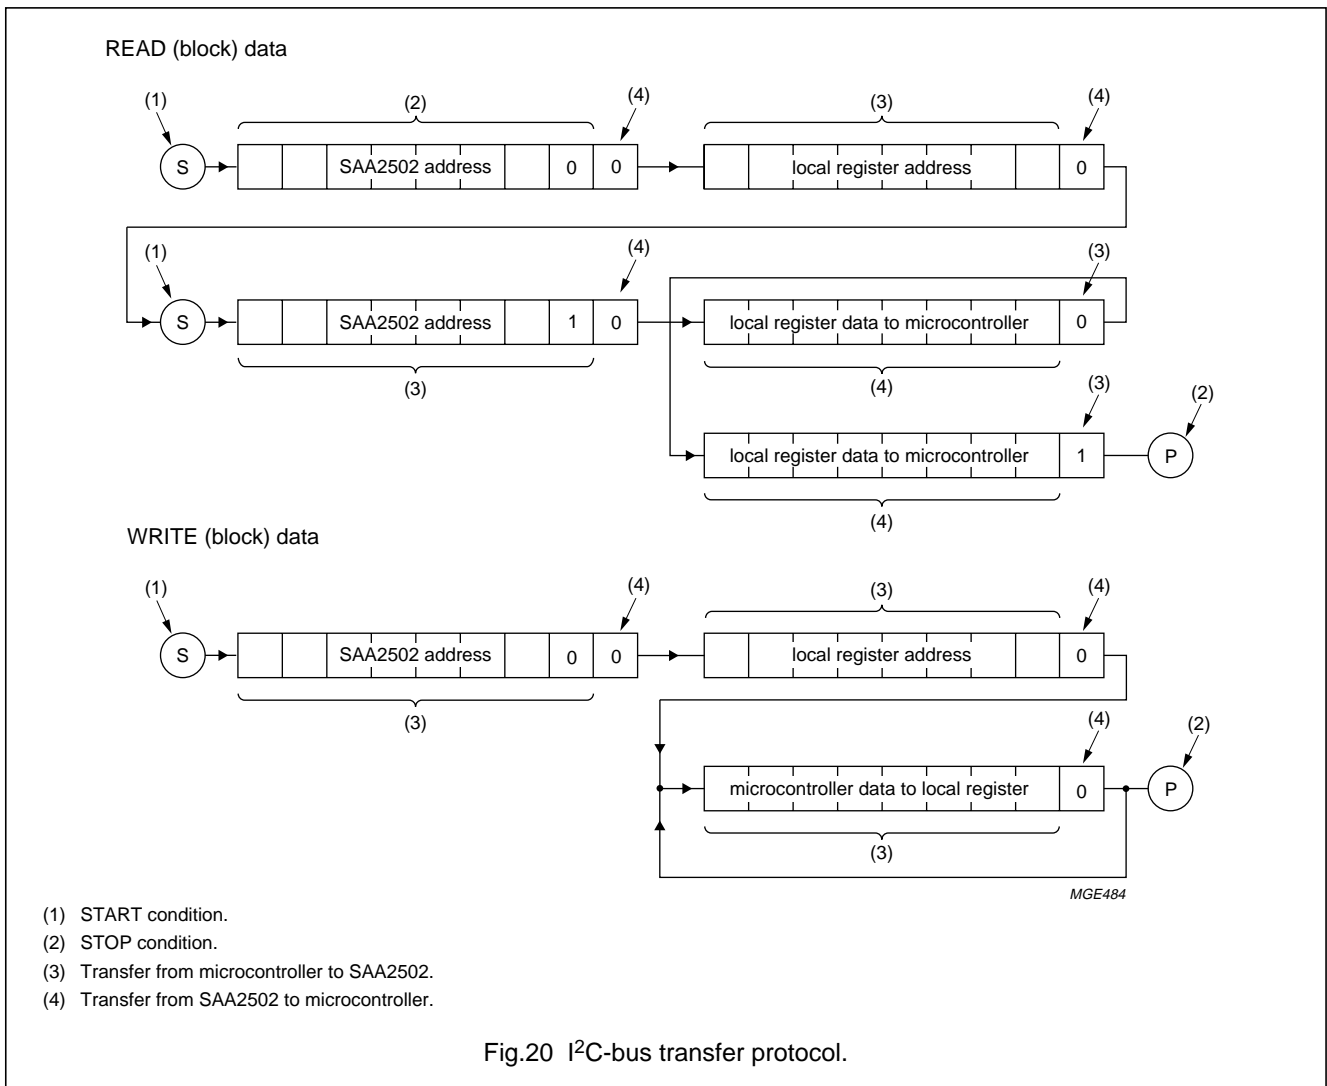

Fig.20 I2C-bus transfer protocol.
7.6.5.2 I2C-bus transfer protocol (see Fig.20)